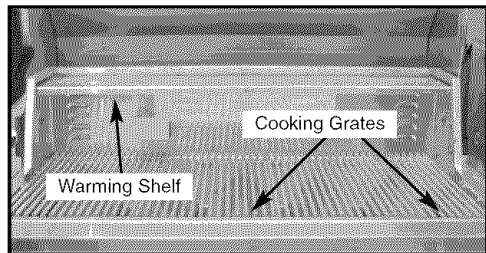

Fig. 15
3. Install cooking grates on the ledges provided on the grill to create your cooking surface. (See Fig. 15)
4. Place warming shelf on support brackets by setting it flat across brackets allowing the two holes to line up with the holes on each bracket. (See Fig. 15)